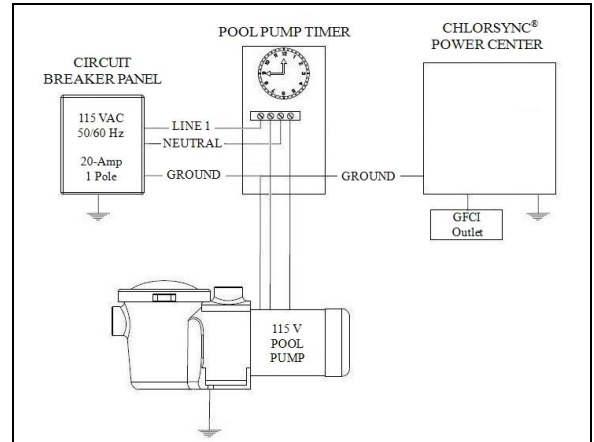

Figure 9
- See **Figure 9** for basic wiring to equipment.